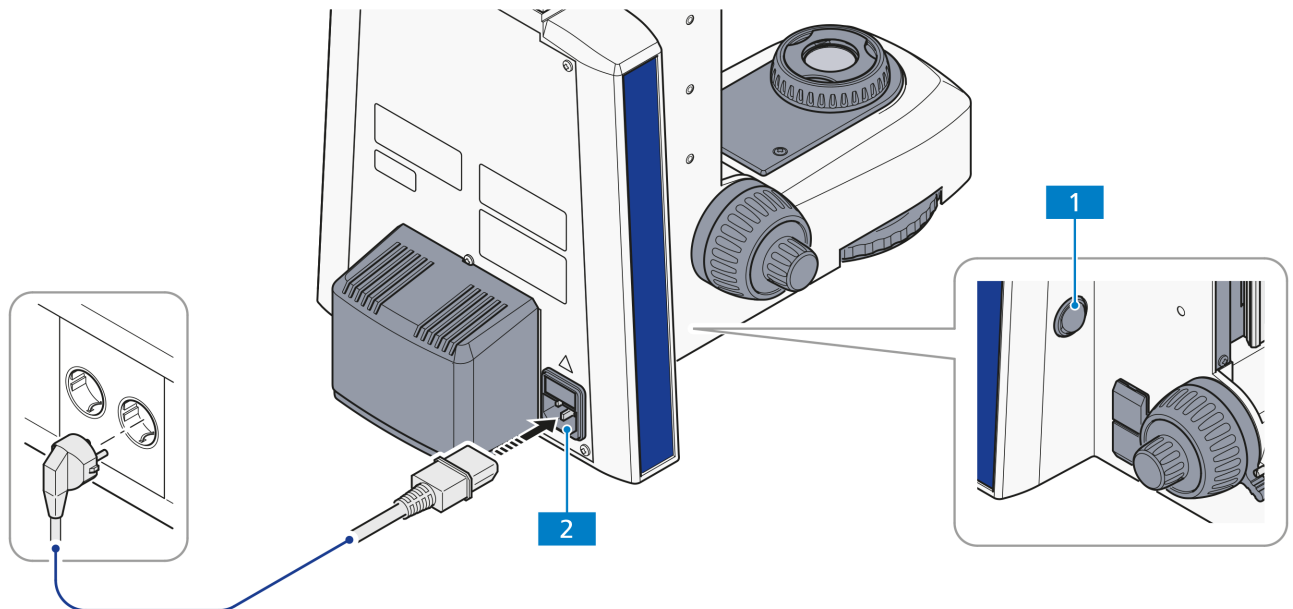

Fig. 3-52 Lower stand part for HAL 50 illumination (proceed similarly for LED illumination)
- Connect the microscope's power supply (Fig. 3-52/2) with its power cord to an electrical outlet.
- Switch the microscope on or off with the main switch (Fig. 3-52/1) on the left side of the stand.
- Turn the power switch (Fig. 3-52/1) of the microscope with the lower part of the stand for LED or HAL 50 illumination either on or off.